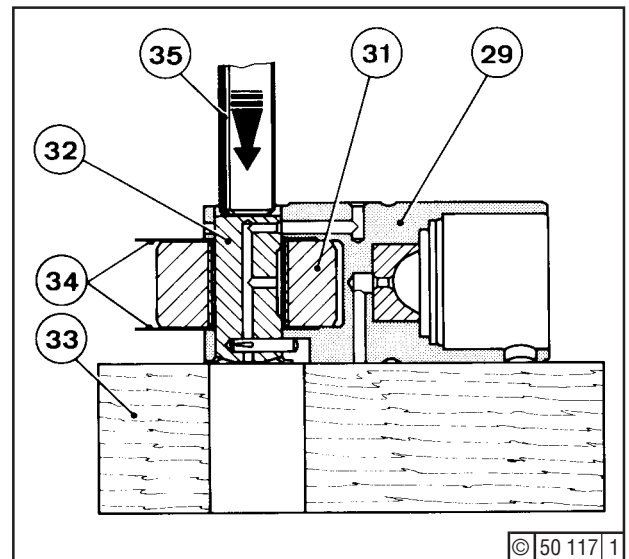

Fig. 3
After removing the complete tappet (29), the roller can be removed. The best way to do this is to use a prism, on which the tappet is placed to press out the roller pin (32) - Fig. 3 -. If no prism is to hand, the tappet can be placed on a hard-wood block (33) or on an aluminium plate provided with a suitable large hole for free passage of the roller pin when being pressed out.